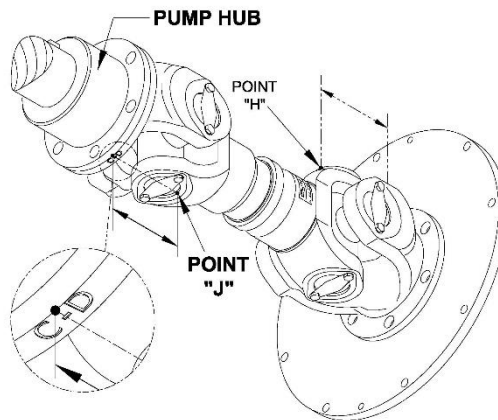

Figure 2-6
2.4.3.4.1. Measure from the mating surface of the pump companion hub of the drive shaft to point J as shown in figure 2-6. (Point J is the same as point G, with the driveshaft rotated 90°). This measurement must be equal to the measurement at point H ± 1.